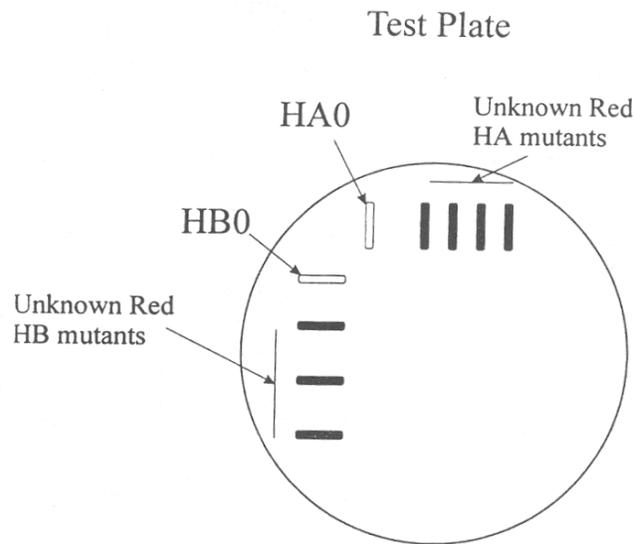

Figure 6.2.
- Prepare a test plate of the suspected mutants from both mating types on YED media. Use the master plates that your instructor has made from the original mutants that your class prepared earlier. Use a separate, sterile toothpicks to set up the your plate as in Figure 6.2. Your number of mutants will probably vary but don't put more than 3 or 4 unknowns